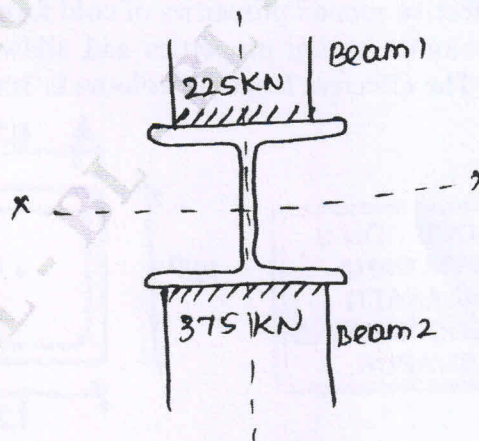

Fig Q3(b)
- b. The column ISHB 300@ 618N/m in a framed building supports the beam as shown in Fig Q3(b) at its top end. The beams are welded to column flanges and transfer end reaction of 225kN (beam 1) and 375 kN (beam 2) and an axial compressive force of 675 kN from the top storey. The bottom end of the column has a similar to beam to column arrangement as well as loading. Check the adequacy of the column if its effective length is 3.2m above the both axis. The beam reactions and loads have been computed from factored loads.